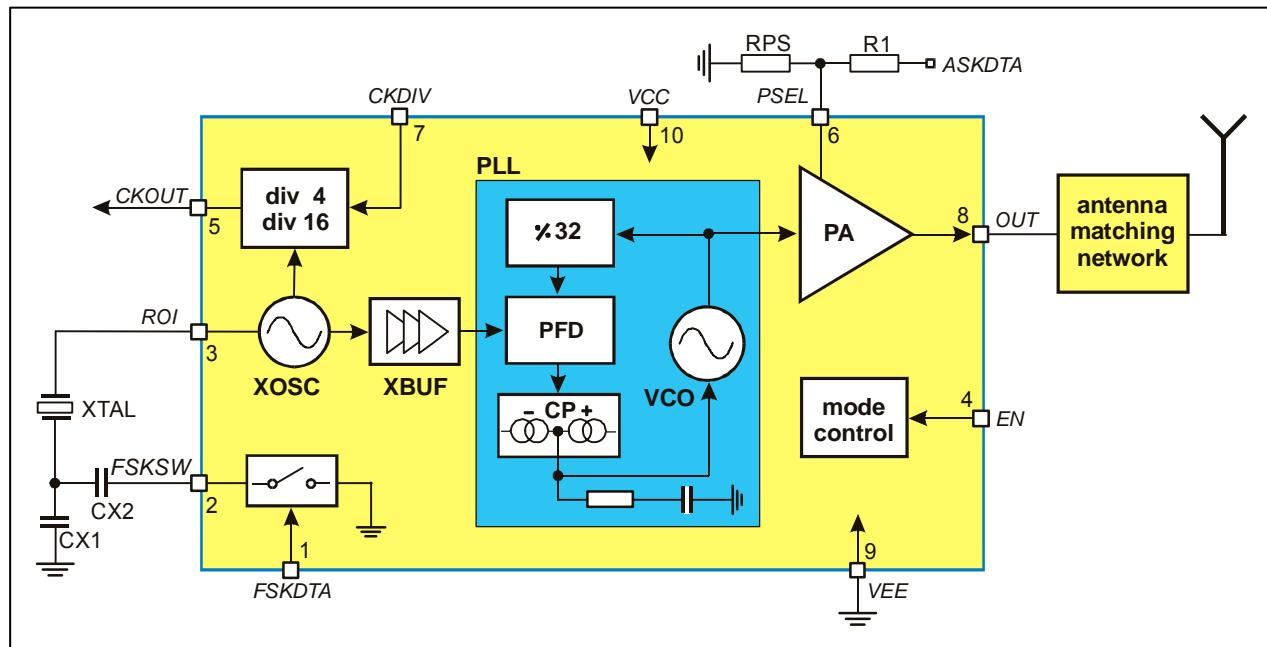

Fig. 1: Block diagram with external components
As depicted in Fig.1, the TH72006 transmitter consists of a fully integrated voltage-controlled oscillator (VCO), a divide-by-32 divider (div32), a phase-frequency detector (PFD) and a charge pump (CP). An internal loop filter determines the dynamic behavior of the PLL and suppresses reference spurious signals. A Colpitts crystal oscillator (XOSC) is used as the reference oscillator of a phase-locked loop (PLL) synthesizer. The VCO's output signal feeds the power amplifier (PA). The RF signal power P_{out} can be adjusted in four steps from $P_{out} = -12$ dBm to $+11$ dBm, either by changing the value of resistor R_{PS} or by varying the voltage V_{PS} at pin PSEL. The open-collector output (OUT) can be used either to directly drive a loop antenna or to be matched to a 50 Ohm load. Bandgap biasing ensures stable operation of the IC at a power supply range of 1.95 V to 5.5 V.